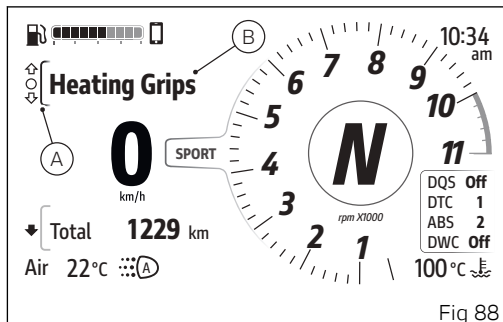

Fig 88
- Select the Interactive Menu (A, Fig 88) by pressing and holding button (1) pressed for a long time.
- Use buttons (1) and (2) to select item "Heated Grips" (B, Fig 88) and press the ENTER button (3).